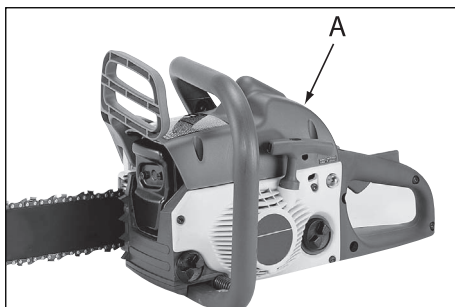

Fig. 15A
1. Remove the top cover (A) by loosening the cover retaining screws. Cover will lift off. (Fig. 15A)